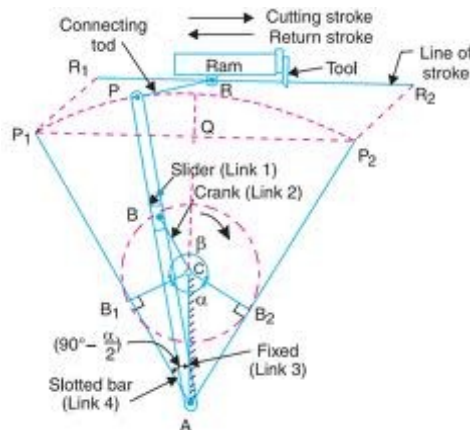

Fig. 1.18
**c) Crank & slotted lever type quick return motion mechanism :** As shown in fig. 1.18, in this mechanism the link 3 is fixed, the link 2 revolves about centre C. A slider link 1 attached to the crank pin at B slides along the slotted link 4 & make the slotted lever oscillated about pivoted point A. Link PR transmits motion from slotted link to ram which reciprocates with the tool along the line of stroke which is perpendicular to fixed link 3. This mechanism is mostly used in shaping machine & slotting machine. Here  $B > a$ , hence during cutting stroke ram speed is less than that during forward stroke. As ram moves quicker than it moves in forward direction this mechanism is known as quick return mechanism.